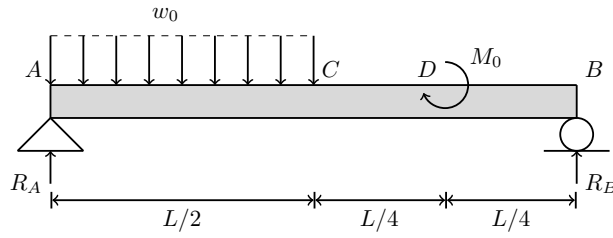

Figure 9
9. Consider the following loading condition on a simply supported beam as shown in Fig. 9. Draw the elastic curve for the given problem and determine the maximum deflection and slope. [10]